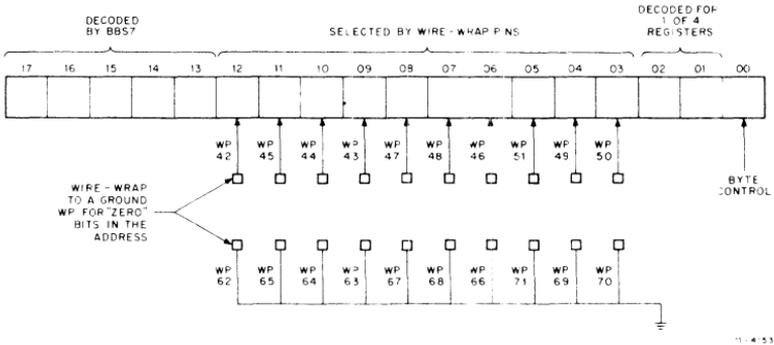

Figure 2 DRV11-P Device Address Select Format
Figure 2 shows the address select format and presents the wire-wrap pin-to-bit relationship for device address selection. Bits to be decoded as "zero" bits in the base address are wire-wrapped to ground wire-wrap pins (WP). Bits to be decoded as "one" bits are left unwrapped as these bits are pulled up to the one state.